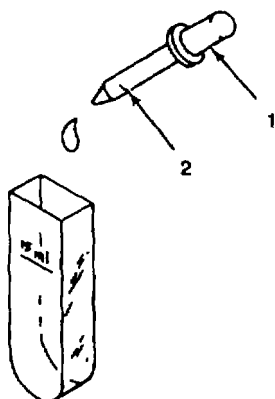

Figure 2-32. pH Test Cell
- (1) Place the pH color disc (1) in the comparator (2).
- (2) Rinse and fill two dean cells (3) with water sample to the mark (4).
- (3) Hold the comparator (2) with the eye piece facing you and place the two water-filled cells (3) into the openings at the top.
- (4) Fill the dropper (1, Figure 2-32) of the wide range indicator solution (white cap) bottle to the 0.50 m L mark (2).